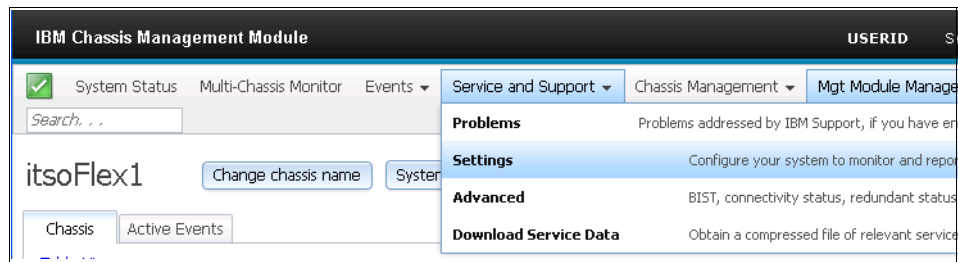

Figure 7-27 Selecting CMM Service and Support Settings option
1. Click **Service and Support** → **Settings** from the menu bar option, as shown in Figure 7-27.